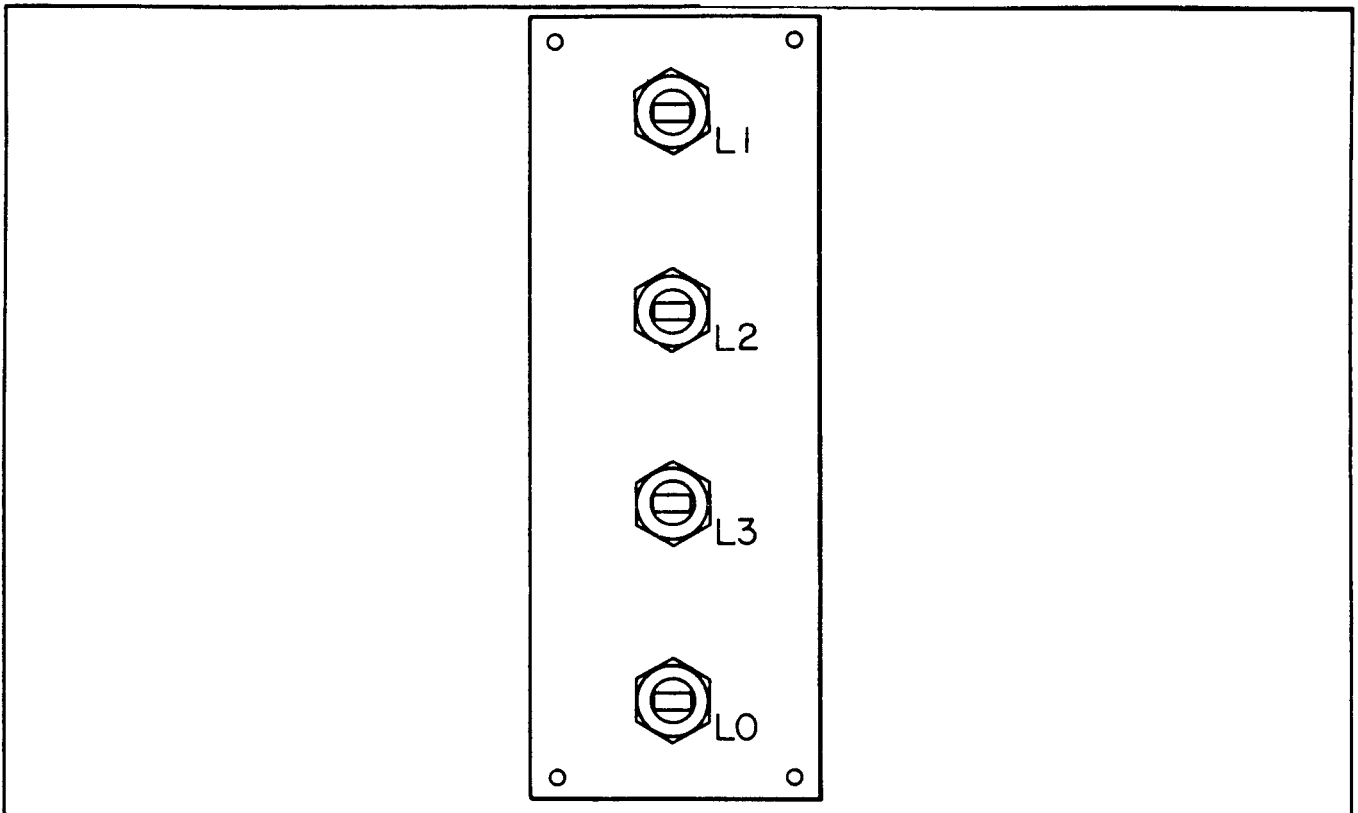

Figure 2-3. Load Terminal Board Assembly
(3) A 208 or 416 Vac three phase load may be connected between terminals marked L1, L2, L3 and LO (figure 2-3).